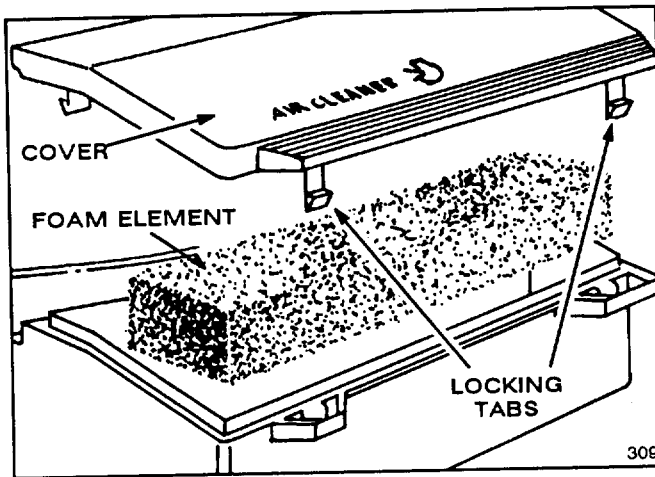

Figure 9
2. Push in locking tabs and lift off air cleaner cover. Clean cover thoroughly (Fig. 9).
3. If top of foam element is dirty, remove it from air cleaner body (Fig. 9). Clean thoroughly.